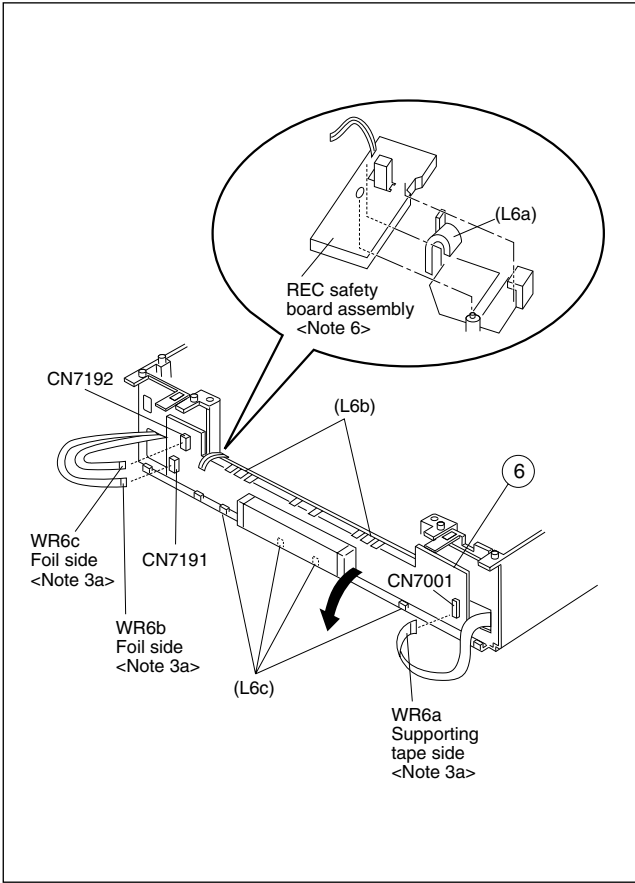

Fig. D6-1
- (9) Remove the SW/Display board assembly and REC safety board assembly. (Refer to page 1-4 of 1.3 DISASSEMBLY/ASSEMBLY METHOD. Take care not to pull the flat wires (Fig. D6-1) from CN7001, CN7191 and CN7192.)